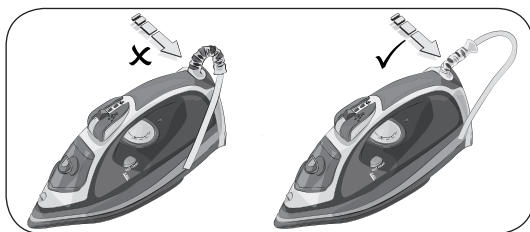

Fig. 7
- 5 Wrap the power cord around the iron without pulling it too tight (Fig. 7).